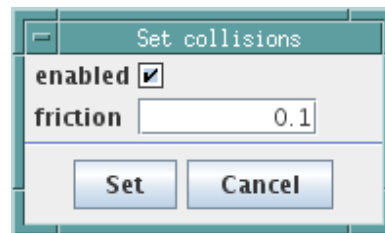

Figure 44: Dialog for setting collision behavior between bodies.
- If a user selects a particular set of rigid and/or deformable bodies, a specific collision behavior may be established among those bodies by choosing "Set collisions ..." from the context menu. That will open the dialog shown in Figure 44, allowing the `enabled` and `friction` properties for this behavior to be set.